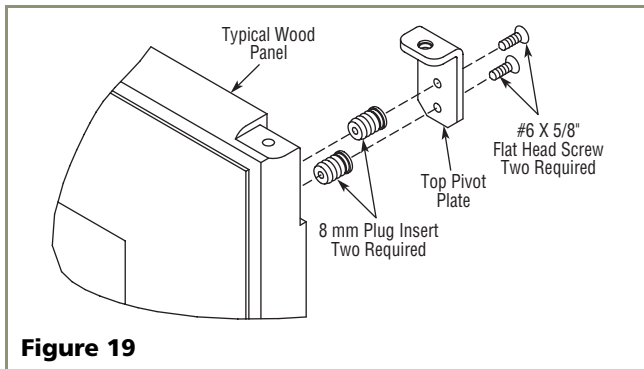

Figure 19
1. Tap nylon inserts into the top holes drilled in the overlay panel. Use two #6 screws to attach top pivot bracket to the overlay panel (see **Figure 19**).